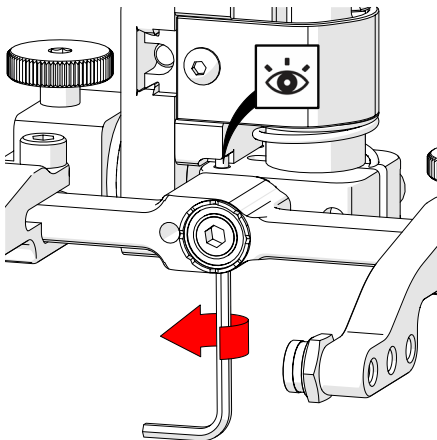

Fig. 164 - Raise opposite 90° stop post
8. Raise the stop post on the opposite side until the side of the post clearly contacts the 90° stop point on the probe holder's base (Fig. 164).